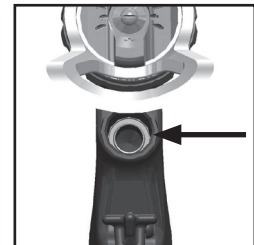

Fig. 18
(See fig 18)
- e. Rear seal must look clean and in position in the bore. (See fig 18)